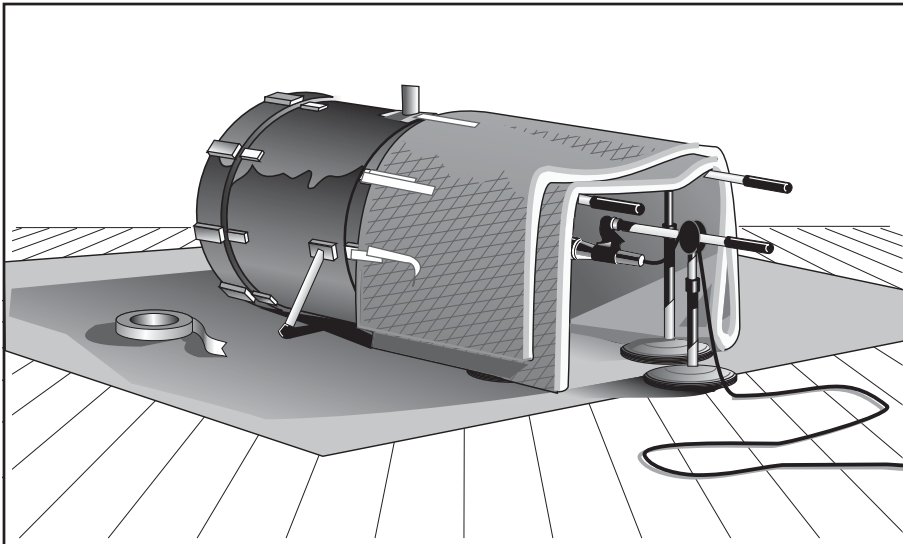

FIGURE 4.3
- **Build a kick drum tunnel.** Once the microphone setup is complete, build a tunnel around the kick drum. This isolates the rest of the room from the kick drum microphone and keeps the kick drum somewhat isolated from the rest of the room. Some engineers use a chair in front of the kick with a blanket over it. Some use two microphone stands to hold the blanket, as shown in Figure 4.3. This setup works well with one close microphone and a second one outside the shell aimed in at the pedal. Follow this routine:
- (1) Use a proper stand and place the microphone in the kick drum as you normally would to suit the music.